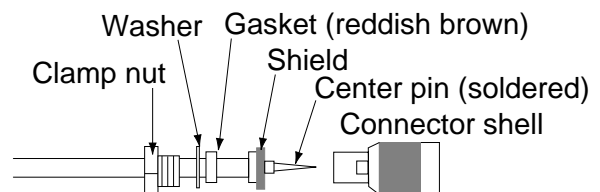

Figure 9-2 How to assemble the connector
- If the antenna cable is to be passed through a hole which is not large enough to pass the connector, you may unfasten the connector with a needle nose pliers and 3/8-inch open-end wrench. Refasten it as shown in Figure 9-2 after running the cable through the hole.